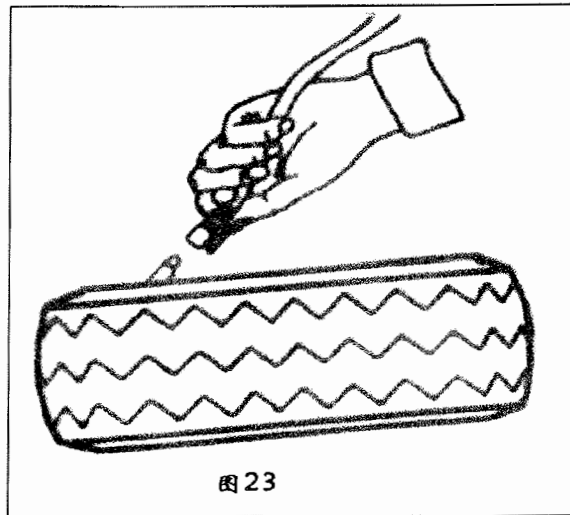

FIG 23
2. Connect the inflation hose with the tire air core. See FIG23.